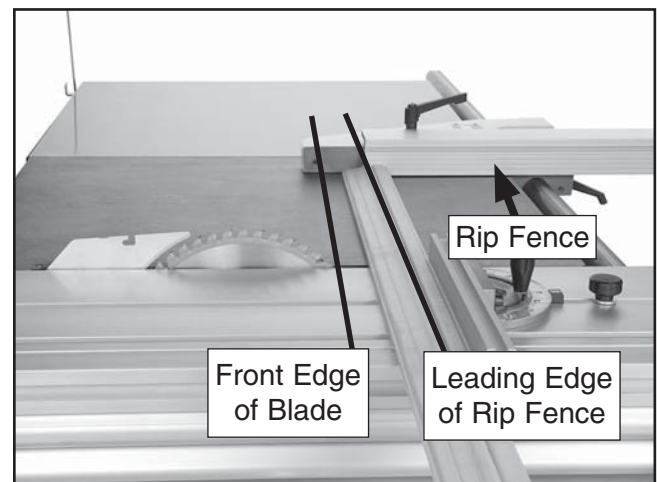

Figure 72. Correct rip fence position when using it as a cut-off gauge (blade guard removed for clarity).
5. Slide the leading end of the rip fence behind the front edge of the blade as shown in **Figure 72**. (**This step is critical to reduce the risk of blade binding and kickback.**)